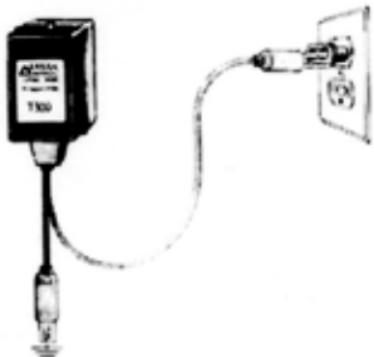

Fig.5 Separate ground connection
2. Attach one of the pigtail connector's insulated clip leads to a separate ground, such as a water pipe (see Fig. 5). As an alternative, use the neutral wire from another circuit away from the circuit being traced.